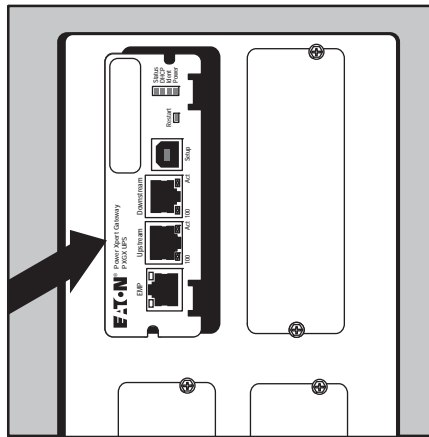
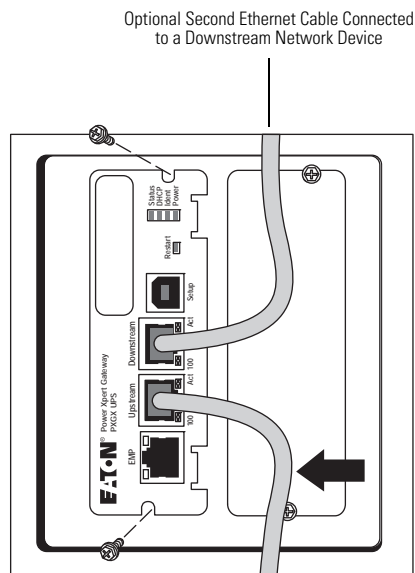

Figure 2. Install the PXGX UPS Card
Figure 3. Secure the Card and Install the Ethernet Cable
5. Slide the card into the open slot and secure with the screws removed in Step 2 (see Figure 2 and Figure 3).
6. Connect an active Ethernet cable (not supplied) to the Upstream Ethernet connector on the PXGX UPS Card (see Figure 3).